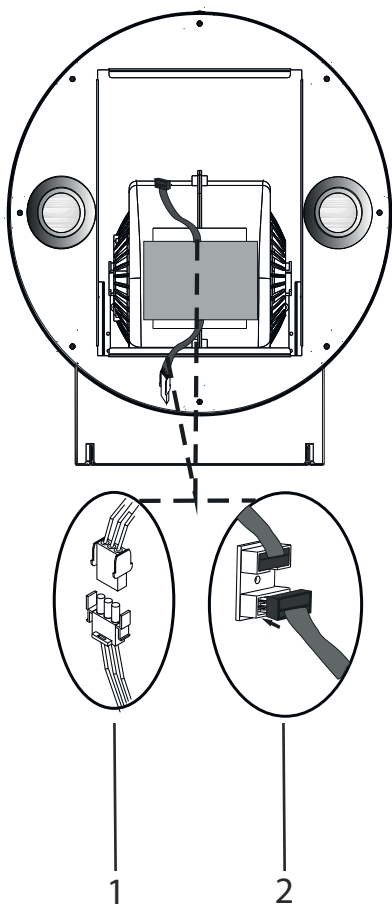

Fig. 18
- 7.** → Connect the socket and switch connections (Fig. 18).